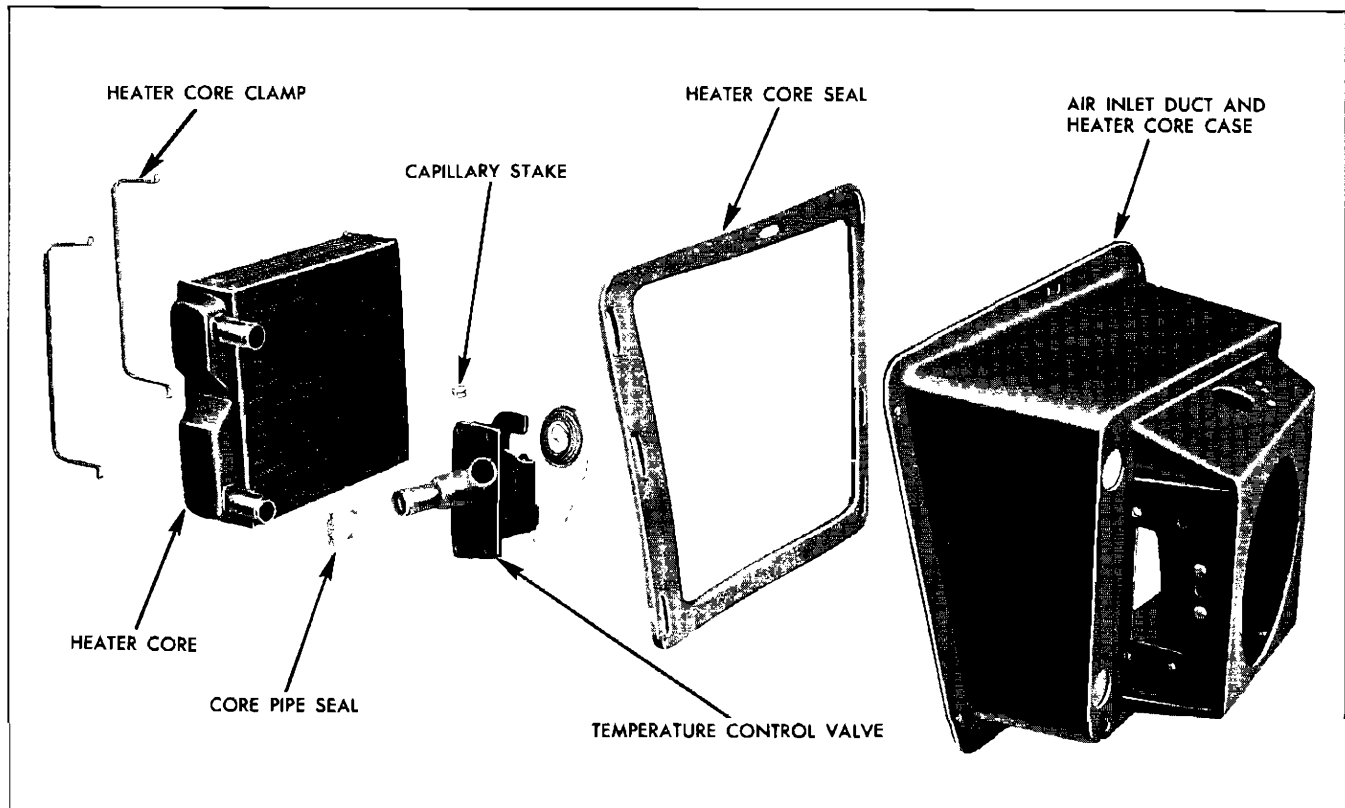

Fig. 3-21 Tempest Heater Air Inlet and Core Case Assembly—Exploded View
12. Replace by reversing the above procedure (Fig. 3-21).